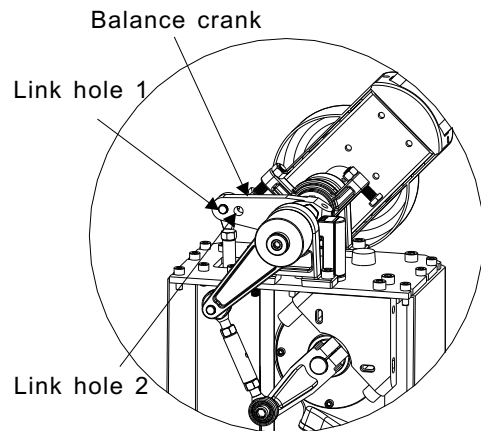

Fig. 8
(E) If the boom is vibrant too much when it backtracks in case of coming across any obstacle, please try as follow: (refer to fig. 8)